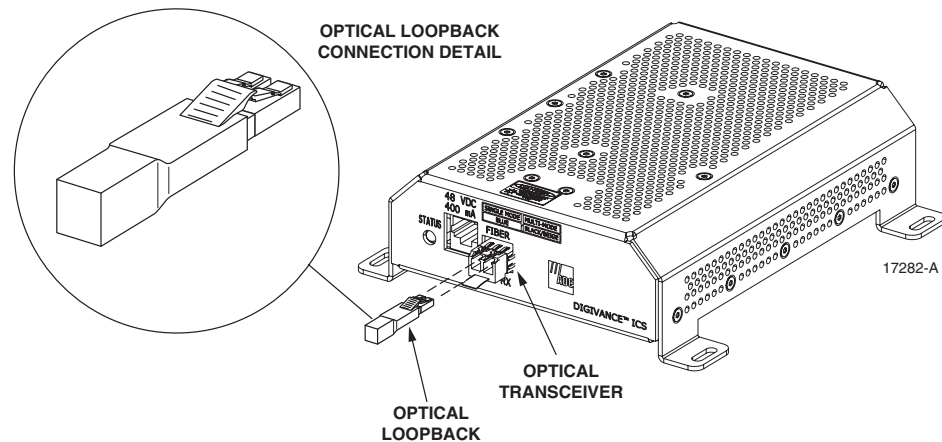

Figure 27. DRU Loopback Test
19. Plug the loopback into the DRU optical port or DEU host port as shown in Figure 27.